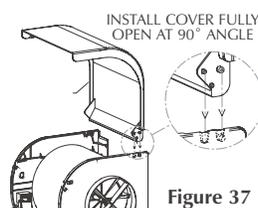

Figure 37
12. With the front cover in the fully open position (not attached to the humidifier), tilt the cover at approx a 30° angle and insert one of the front cover pegs into the round slot (Fig. 37).